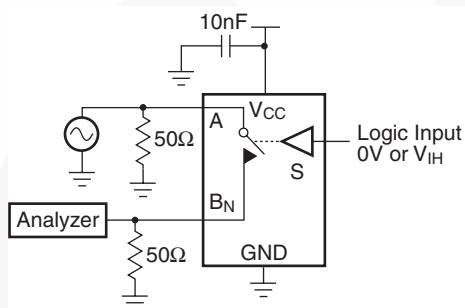

Figure 16. Off Isolation
| OIRR                                   | Off Isolation (10)                                | R L = 50Ω, f = 10MHz   | 1.65 – 5.5             |                        | -57.0 |      |                                    |      | dB    | Figure 16              |